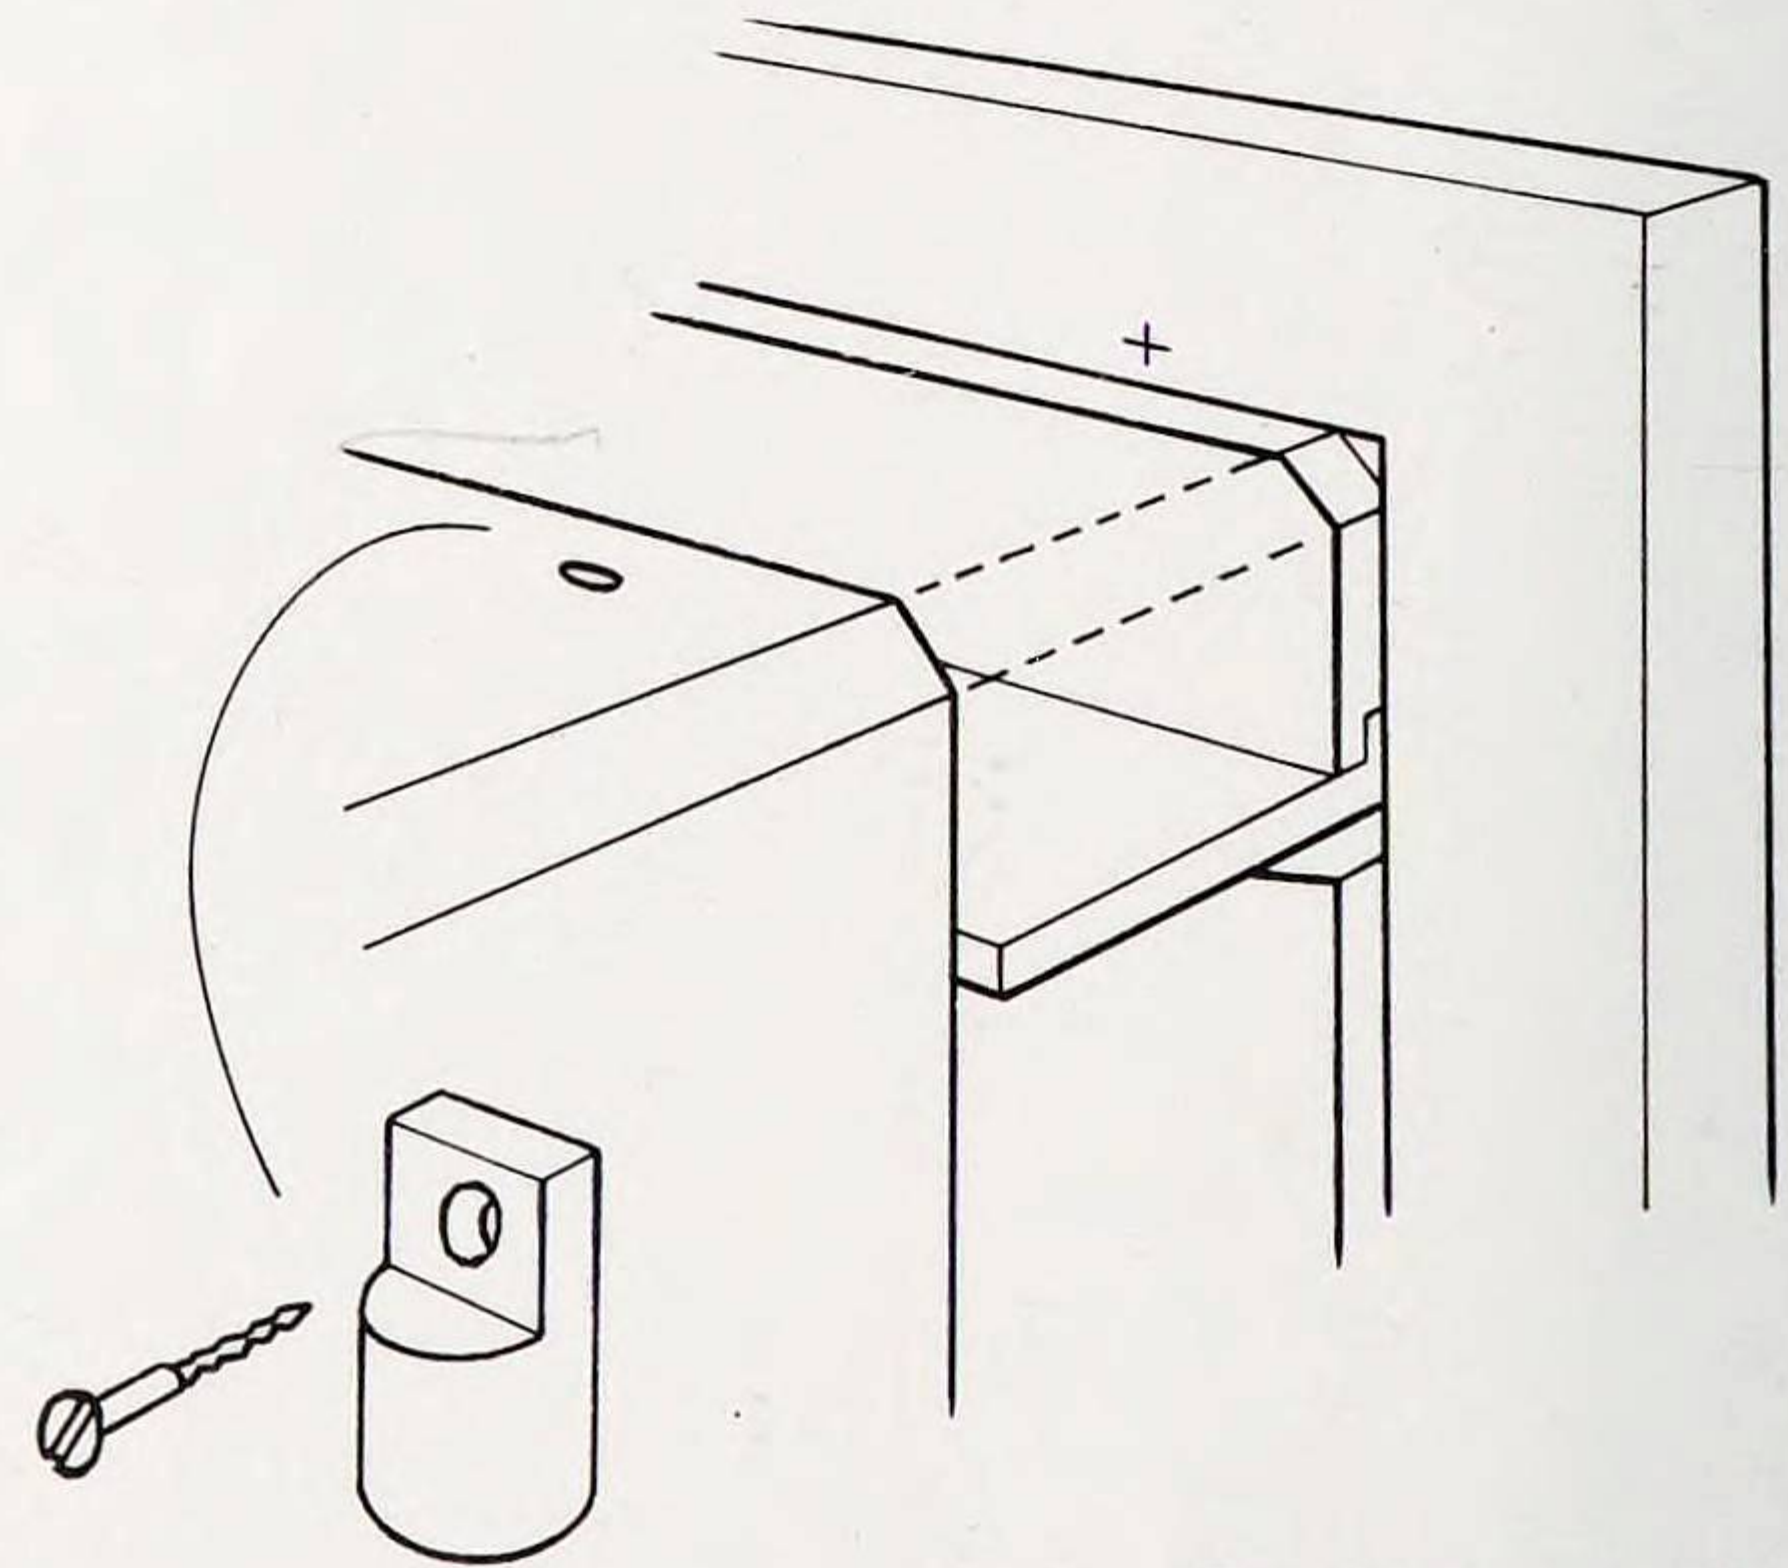

Fig. 6a Button fixing at top
6. Note how the glazing fits securely into the frame and can be held at the top with the button fitting (Fig. 6a), while the bottom can be fixed to the underneath of the fitted lower shelf (Fig. 6b).